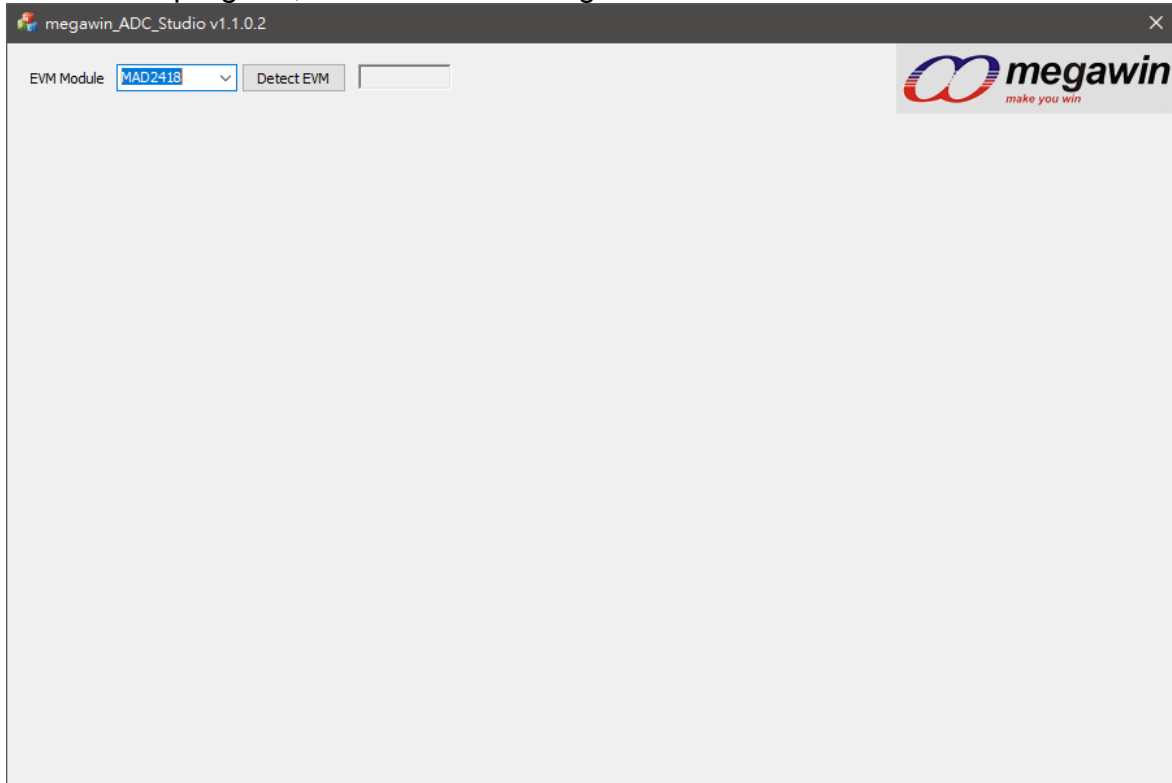

Figure 1
2.1. Launch the program, as shown as the Figure 1.